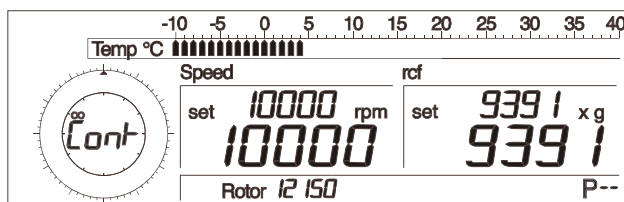

Fig. 5.13: Continuous run display
- Starting with the time setting 11:59, turn the knob clockwise to the next setting. The message "cont" and the symbol "∞" will be displayed (Fig. 5.13).